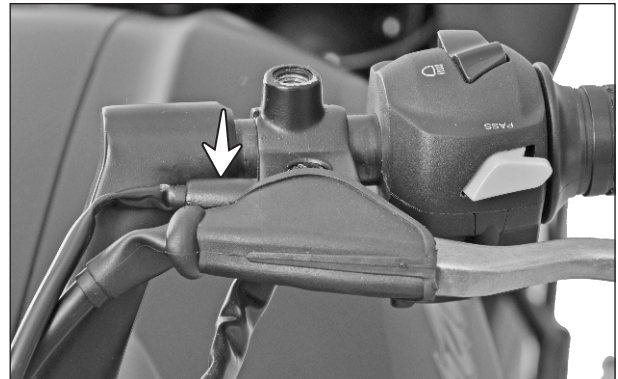

Fig. 5.42
- Switch assembly clutch is located in the bracket clutch lever which is mounted on handle bar LH. (Fig. 5.42)